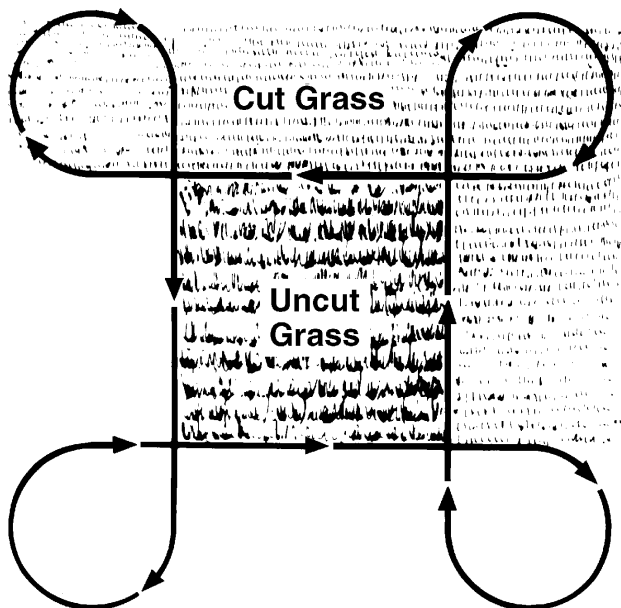

Figure 60
4. Follow the mowing pattern shown in Figure 60.